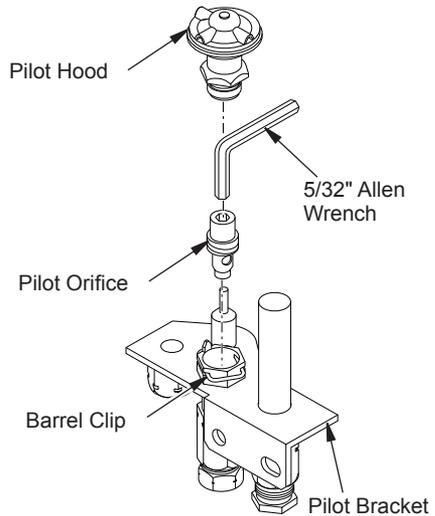

Figure 10 - Converting Pilot Orifice
1. Remove pilot hood assembly by pulling up until it disengages from barrel. DO NOT remove barrel clip (see Figure 10).